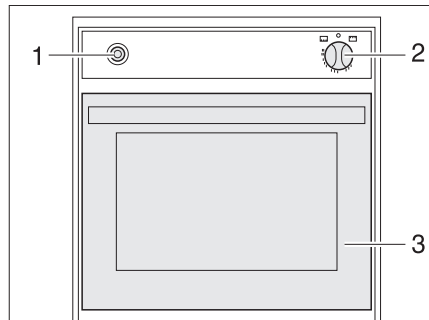

Fig. 127 Gas oven
- Fully open the oven flap (Fig. 127,3).
- Lightly press control knob (Fig. 127,2) and set to "🔥" (oven).
- Press the control knob (Fig. 127,2) and hold it down for 5 to 10 seconds. Gas will stream into the burner.
- Press the ignition switch (Fig. 127,1) repeatedly until there is a flame.
- Turn the control knob (Fig. 127,2) to "O". The flame fades.